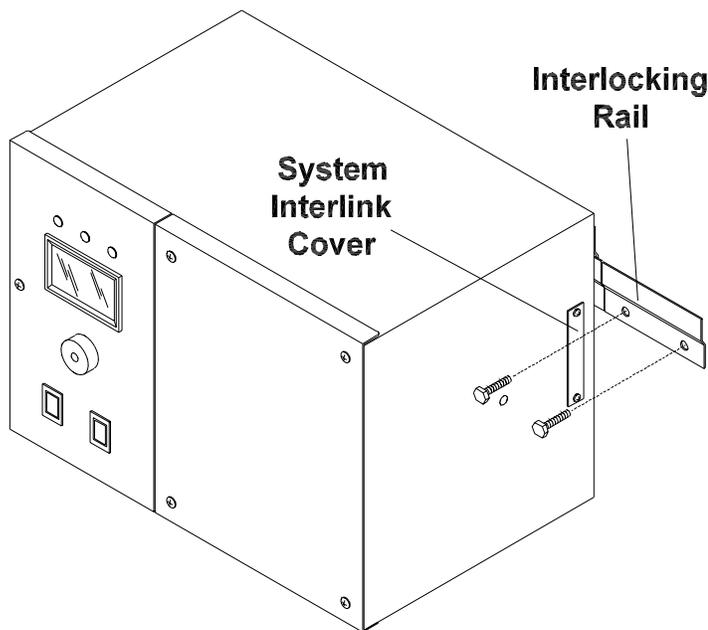

Figure 1 Removing the System Interlink cover and mounting the Interlocking Rail
Step 2: Remove the System Interlink Cover, located on the right-hand side of the Prolink main data chassis. Refer to *figure 1*.
Step 4: Mount the provided interlocking rail end to end with the existing interlocking rail. Make sure they are both in-line and level. Refer to *figure 1*.